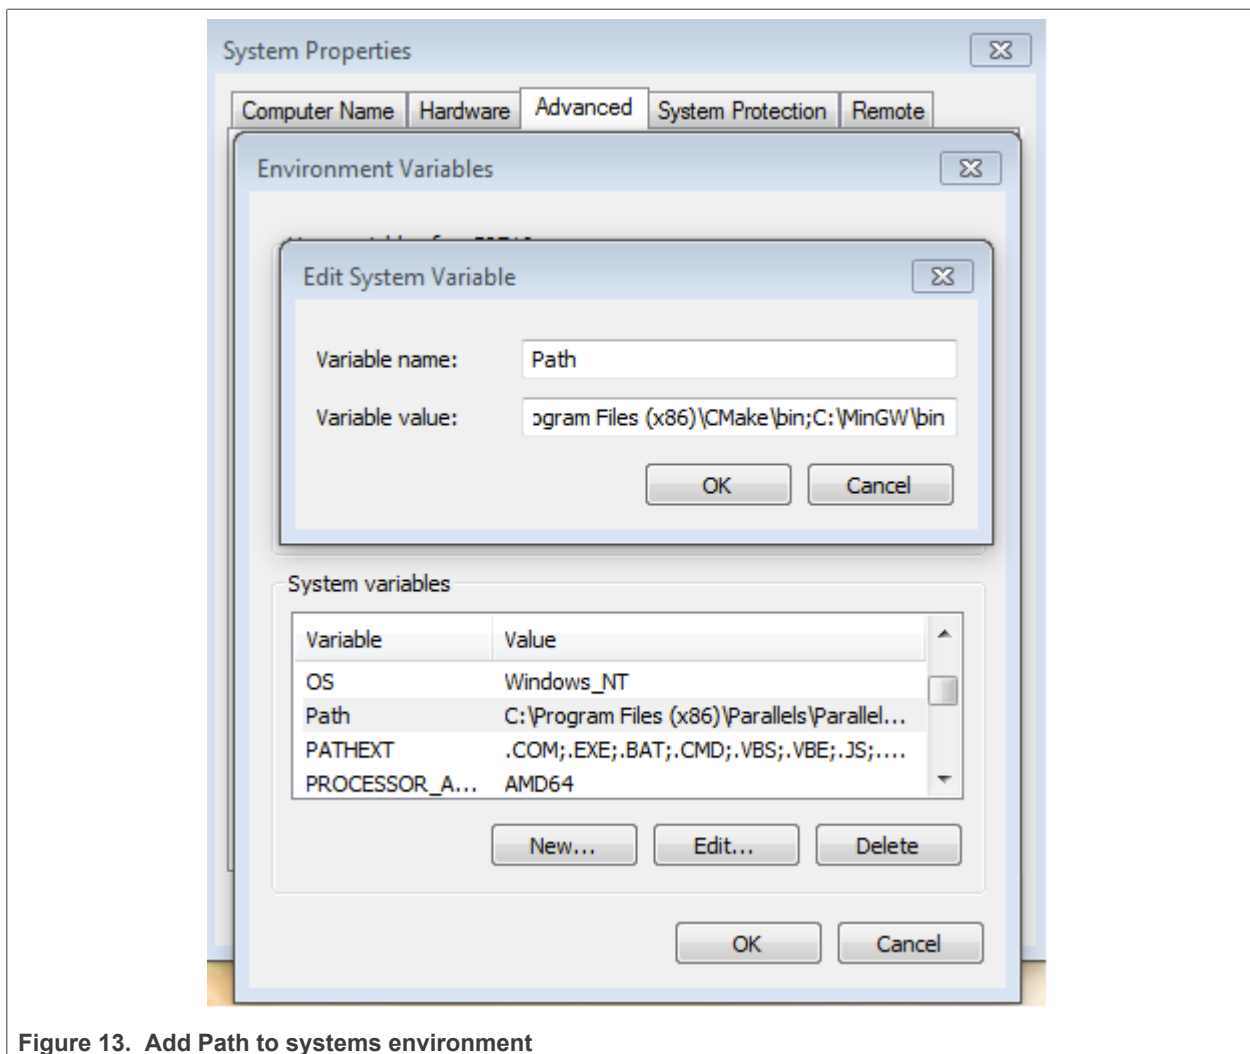

Figure 13. Add Path to systems environment
5. Add the appropriate item to the Windows operating system path environment variable. It can be found under **Control Panel->System and Security->System->Advanced System Settings** in the **Environment Variables** section. The path is: <mingw_install_dir>\bin. Assuming the default installation path, C:\MinGW, an example is as shown in Figure 13. If the path is not set correctly, the toolchain does not work.